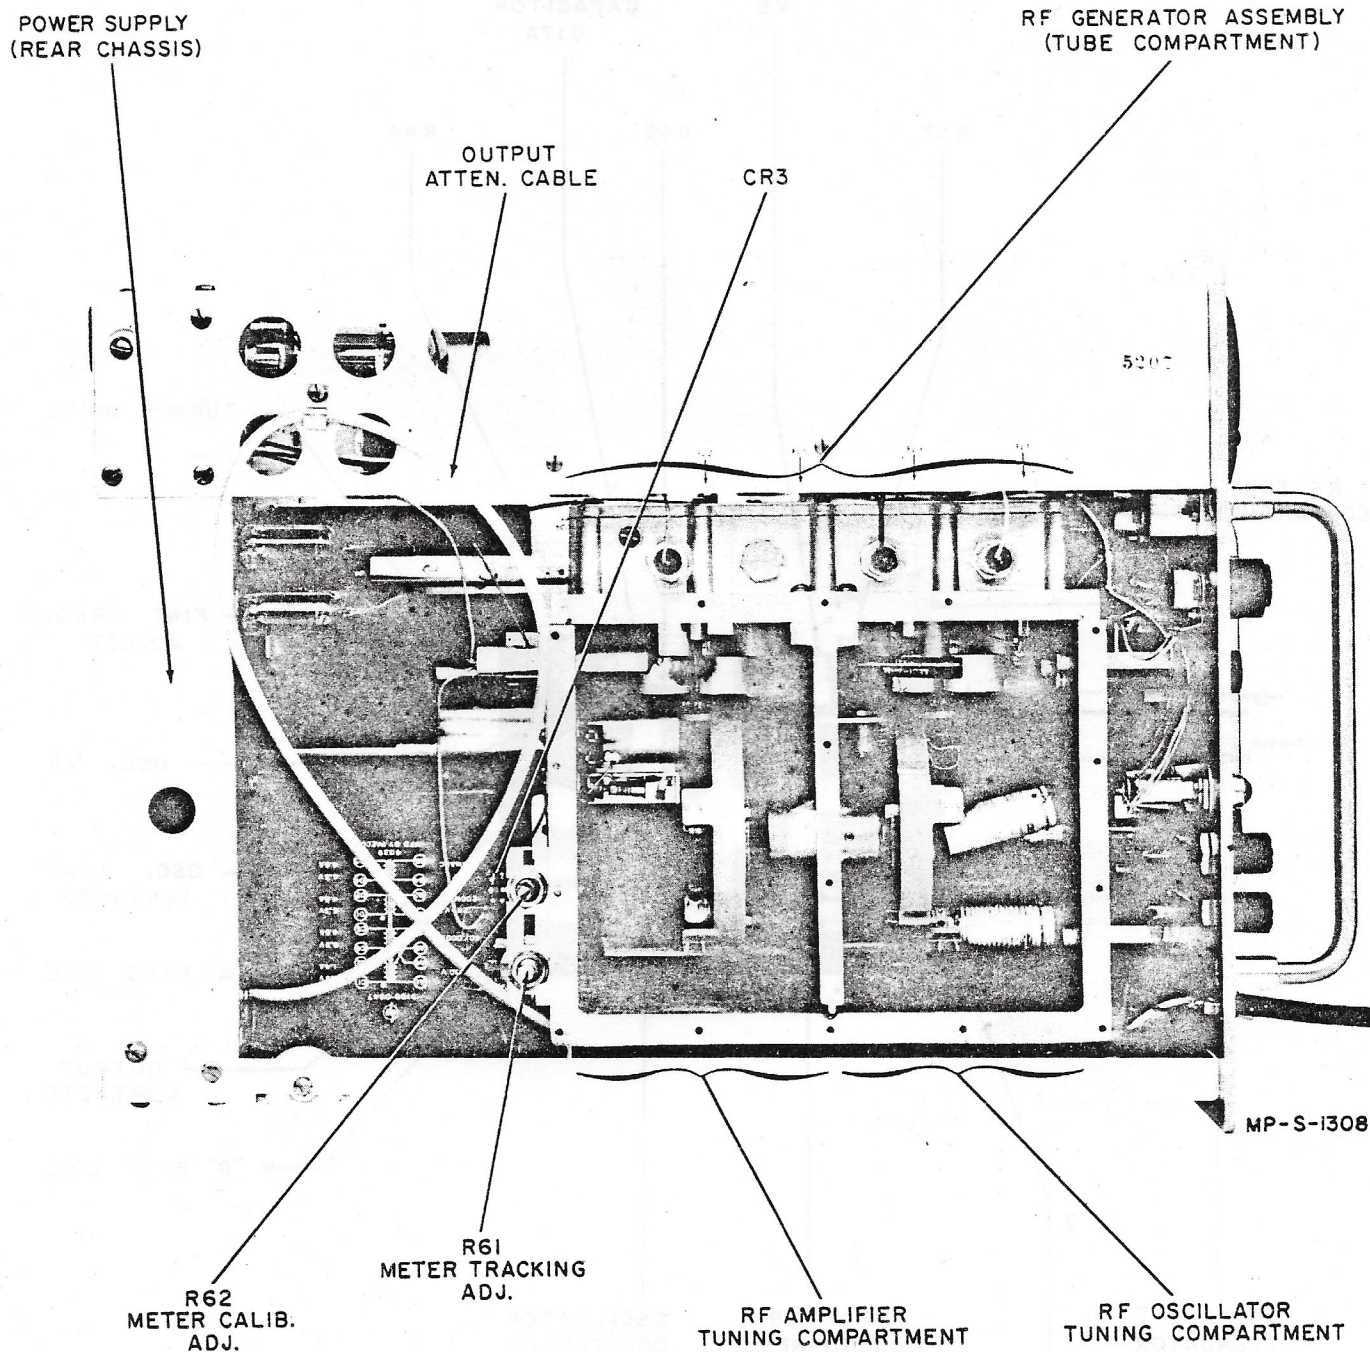

Figure 4-10. Signal Generator Model 608C Left Side View,
q. Replace r-f generator side plate. Using the power meter, check the output at 0 db (1.0 milliwatt) at the higher frequencies on the B, C, D, and E bands. If necessary, the self-contained output meter calibration can be adjusted by means of R62 (see Figure 4-10). See paragraph 4-15 for complete OUTPUT VOLTS meter recalibration instructions.